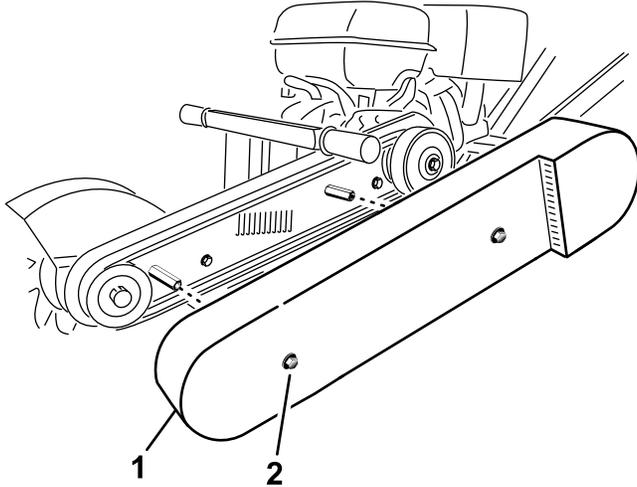

Figure 25
3. Loosen the 2 bolts securing the belt guard to machine until you can remove the belt guard (Figure 25).
2. Bolt and washer (2)
4. Remove the belt guard (Figure 25).
10. Install the belt guard and tighten the bolts (Figure 25).